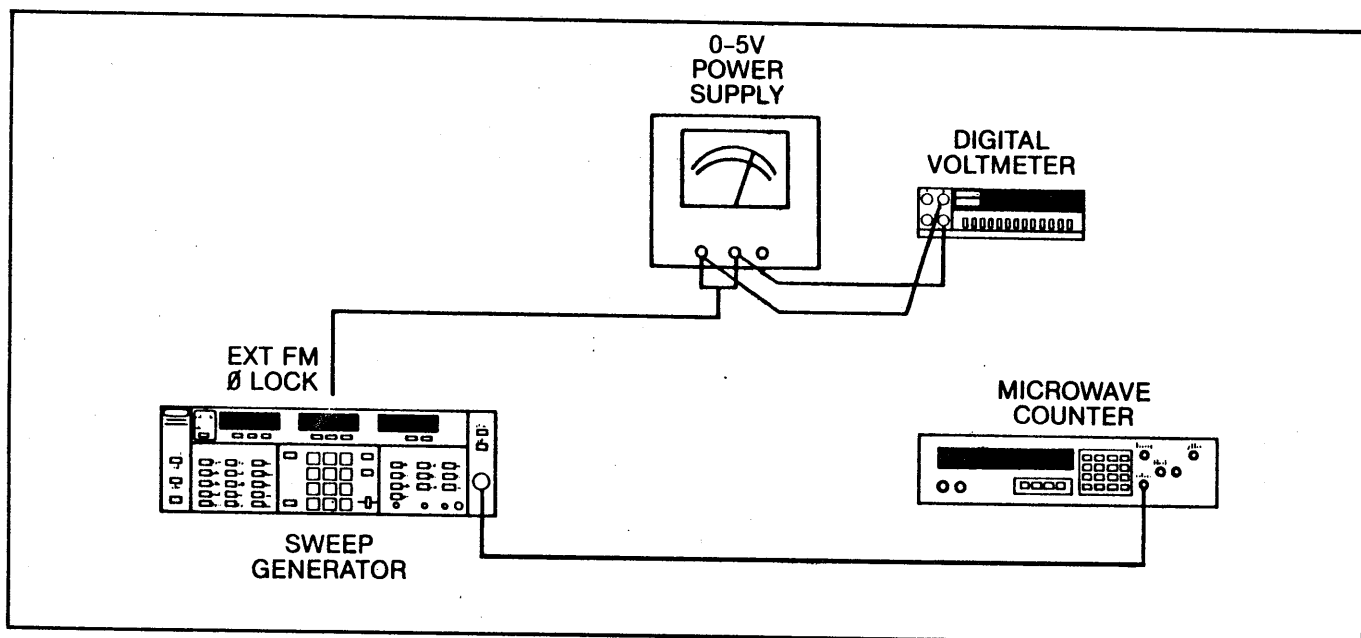

Figure 4-14. Test Equipment Setup for FM Deviation Test
- a. Set up the test equipment as shown in Figure 4-14 and turn the equipment on.